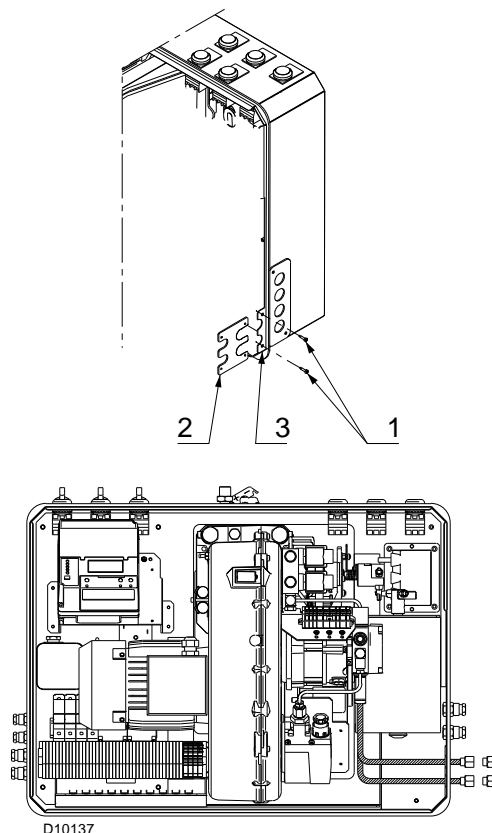

Fig. 20
- Route the hoses through the holes in the plate, preferably using those on the right side, (Fig. 20): unscrew the screws 1), now divide the insert piece into its two parts 2) and 3).